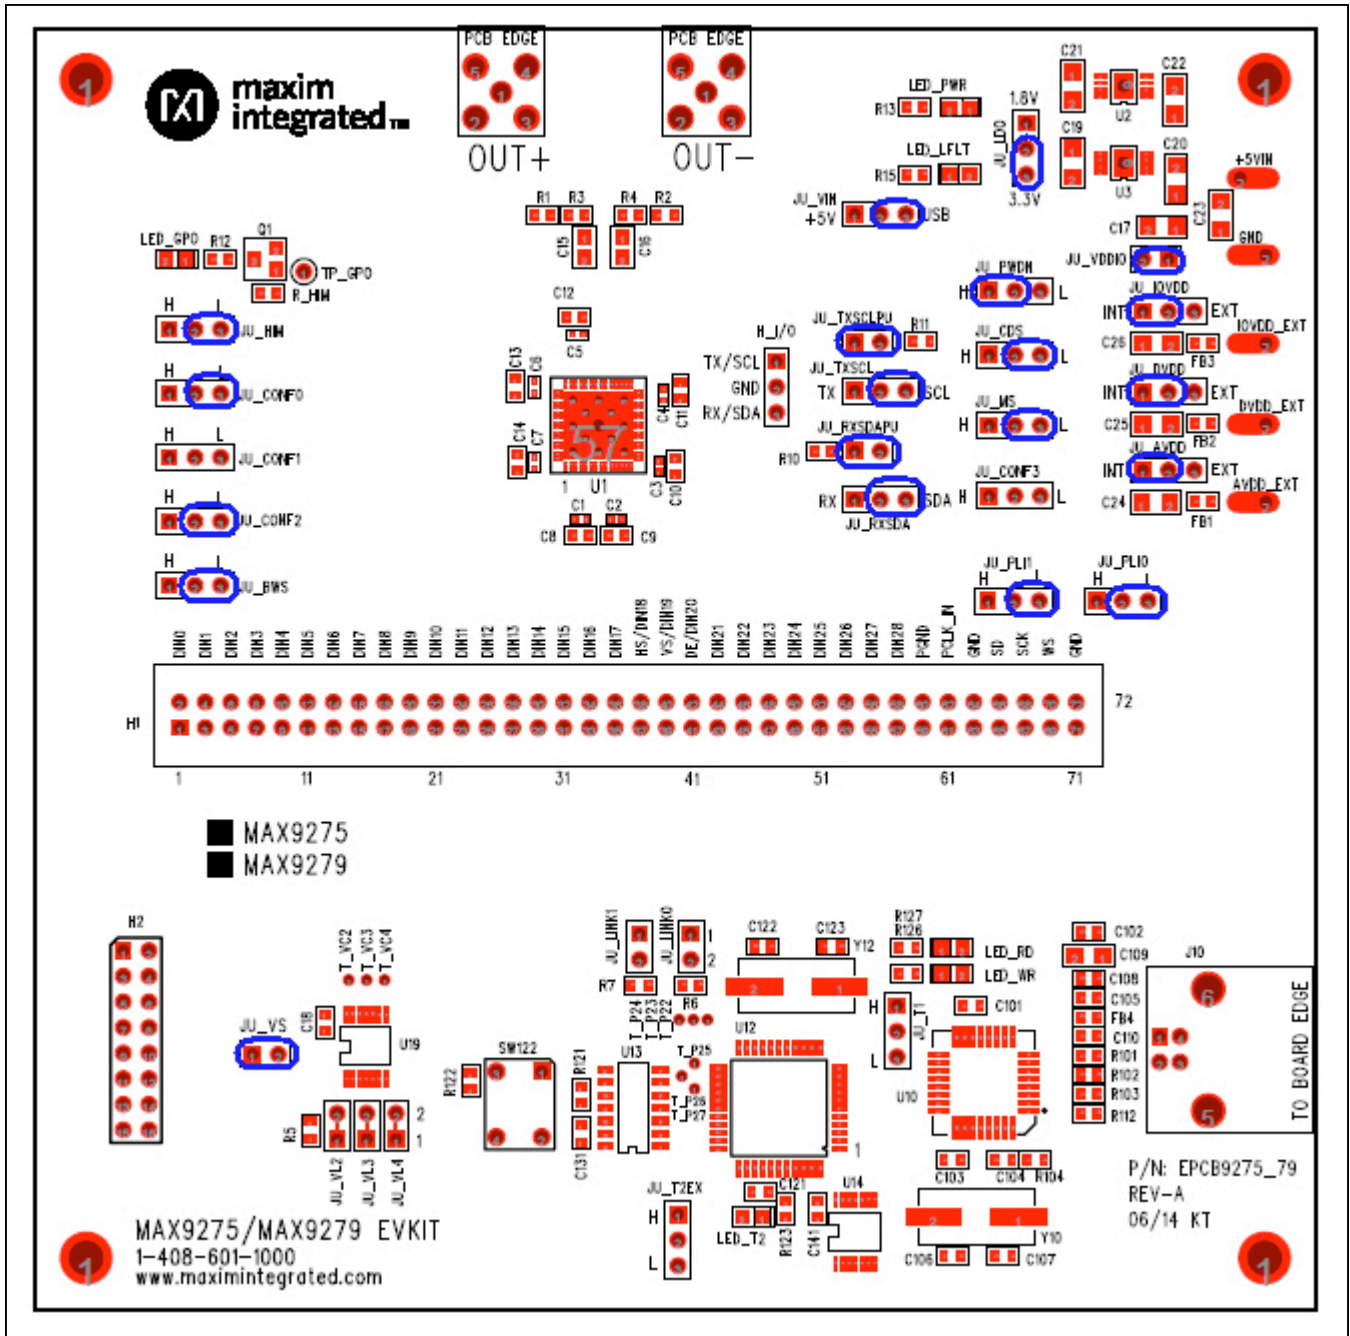
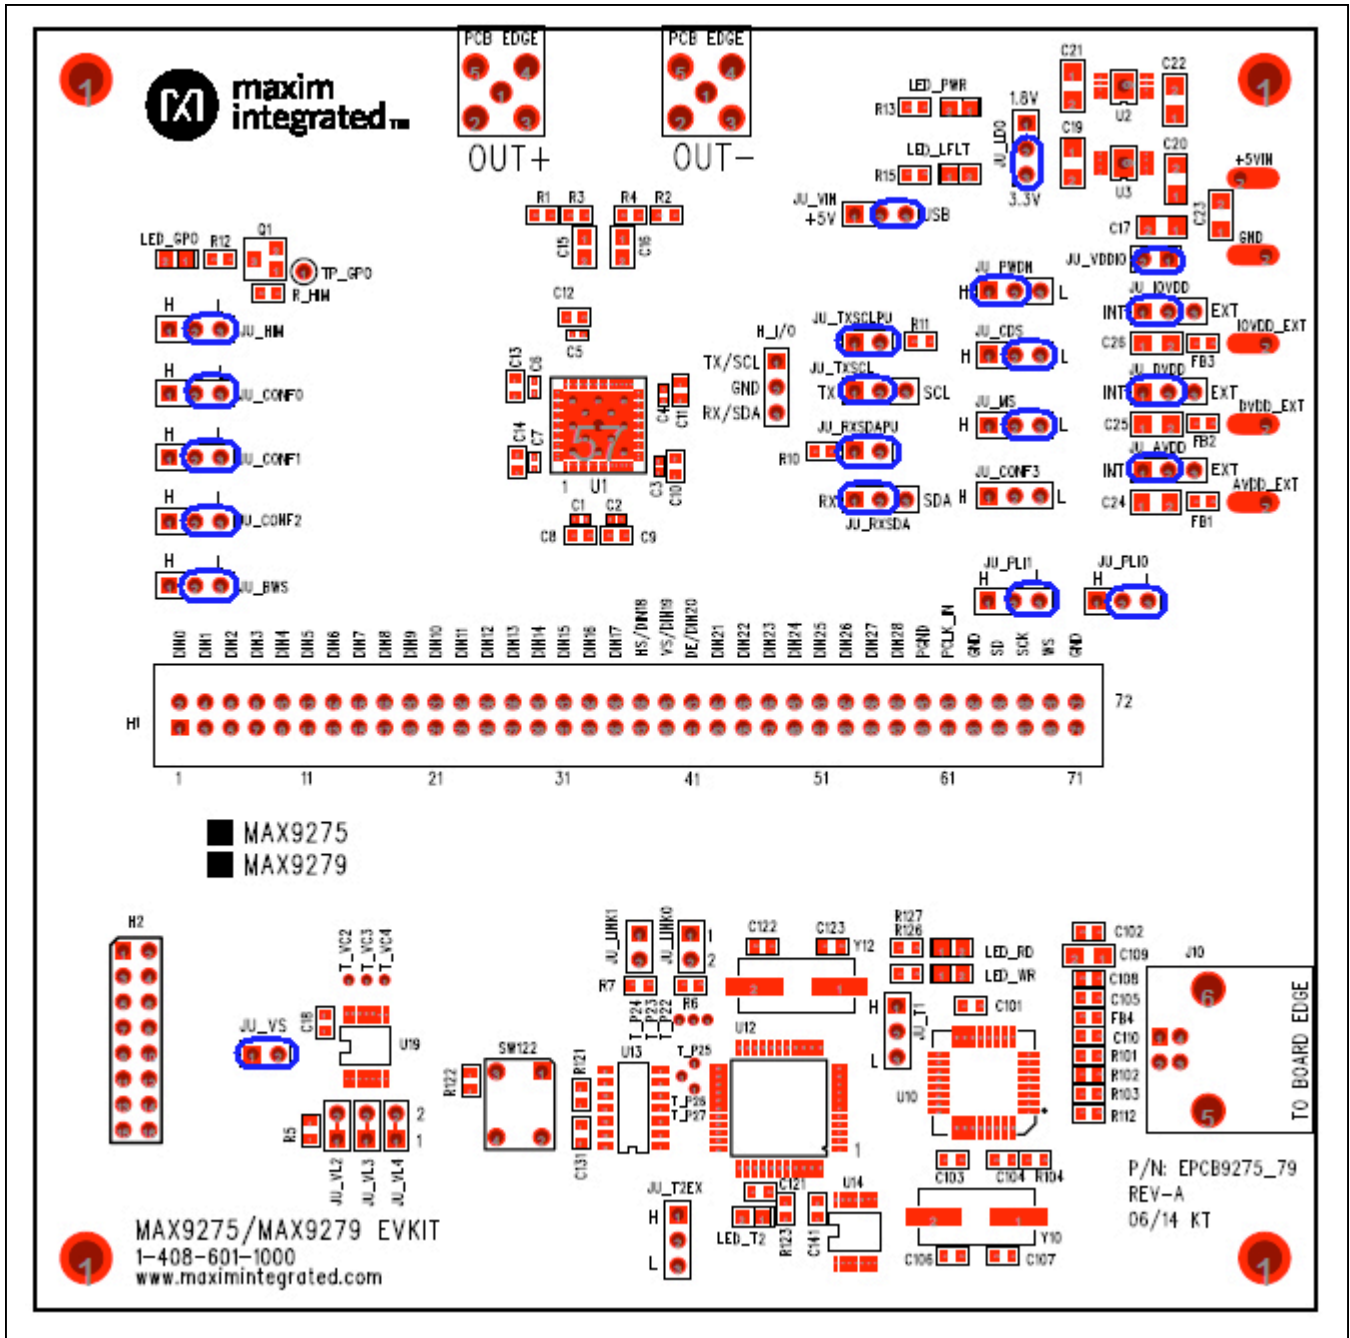
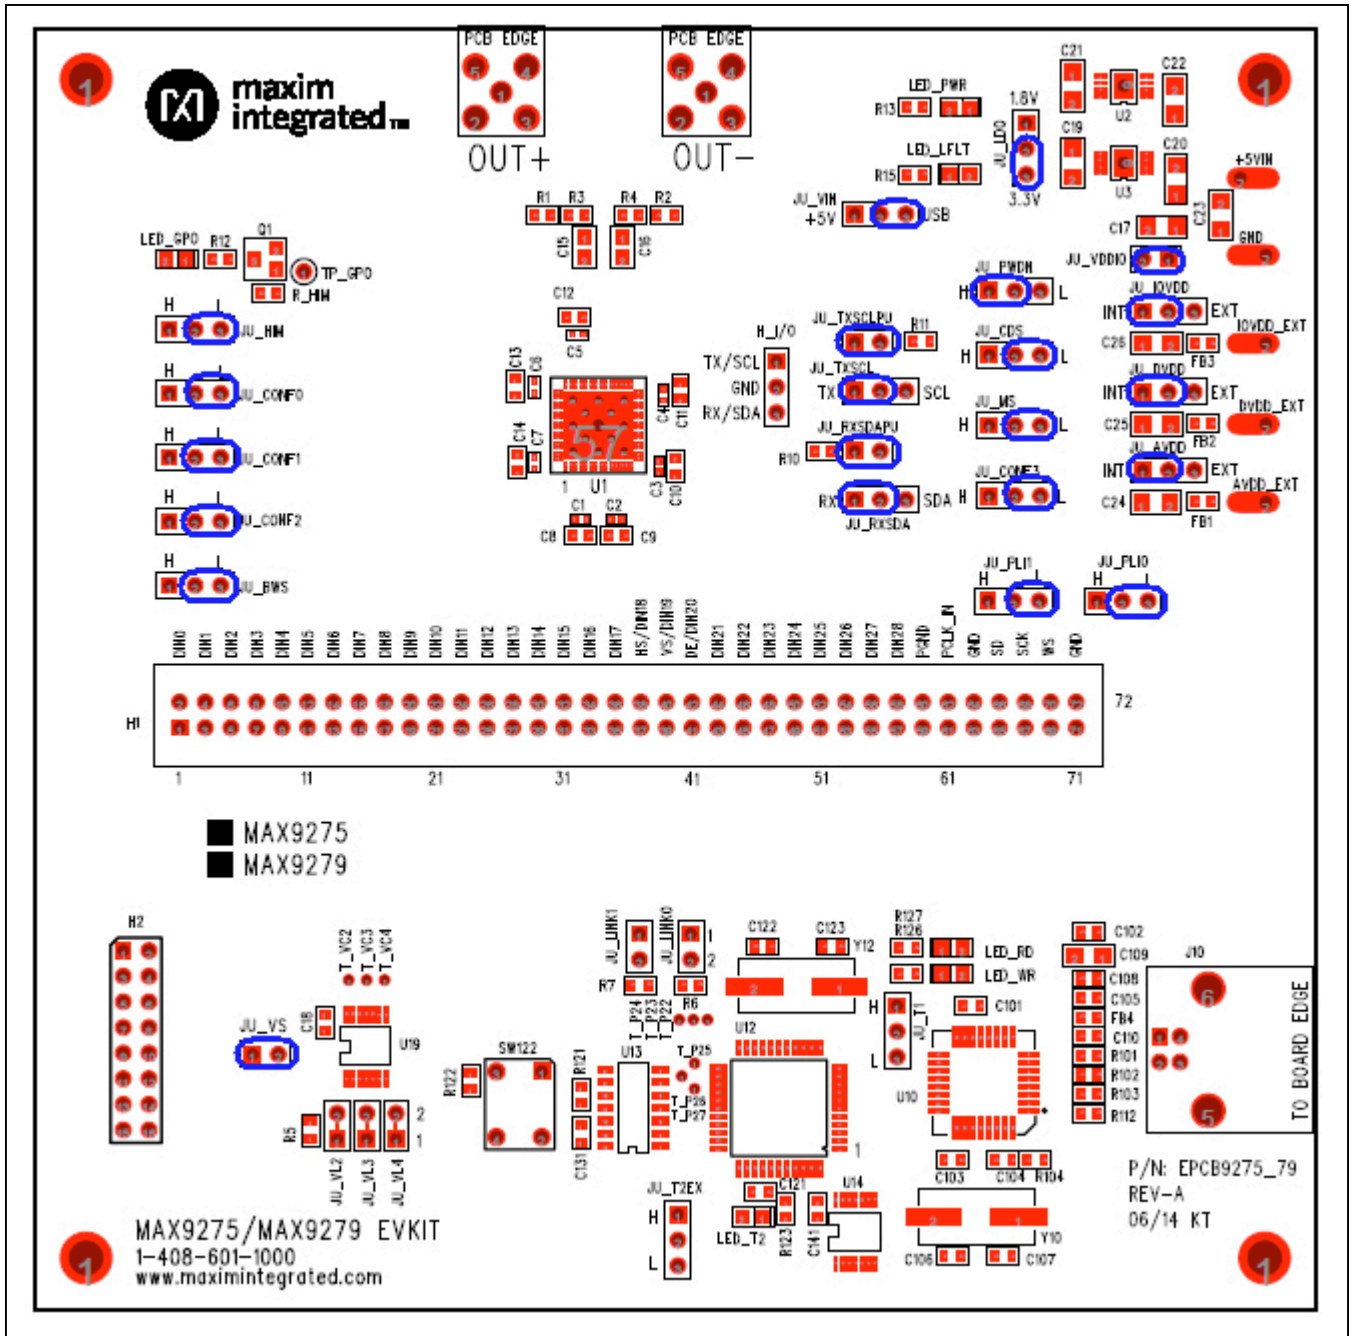

Figure 8. Initial Serializer Jumper Settings for Coax/I²C Mode
Figure 9. Serializer Jumper Settings for Coax/UART Mode
Figure 10. Serializer Jumper Settings for STP/UART Mode
- 2) Verify that all serializer jumpers are in their default positions, as shown in Table 1 and Figure 8, and deserializer jumpers are set, as shown in Figure 12.
The **Identify Devices** button causes the GUI to scan the system and search for slave addresses selectable by the SerDes input address pins. Upon successful communication, identified **Device ID** and corresponding jumper lists are displayed on the **MAX9279 Jumper Selection** and **MAX9280/80A Jumper Selection** group boxes. The user can also manually select a device from the **Device ID** drop-down list and enter a slave address in the **Device Address** edit box. It is good practice to utilize the **Identify Devices** function and verify communication with the DUTs before attempting to **Connect**. Figure 8, Figure 9, Figure 10, Figure 11, and Figure 12 show jumper settings on the MAX9275/MAX9279 PCB for coax or STP cable and UART or I²C communication with a USB controller connected to the serializer board. Refer to the MAX9275/MAX9279 IC data sheet for detailed configuration information. See Table 1 for jumper functions and settings.